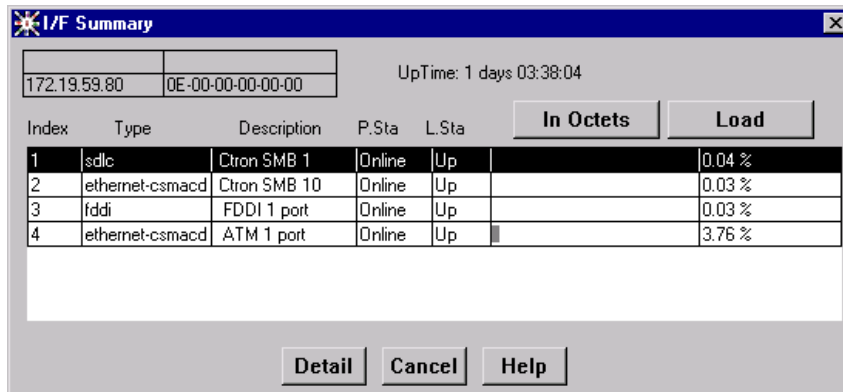

Figure 2-8. I/F Summary Window
2. Drag down to **I/F Summary** and release. The I/F Summary window, Figure 2-8, will appear.